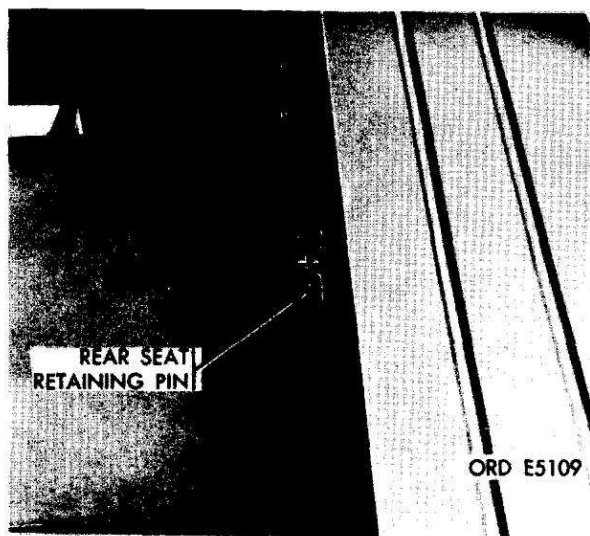

Figure 2-17. Seat retaining pin.
c. Remove the two rear seat retaining pins as illustrated in figure 2-17.